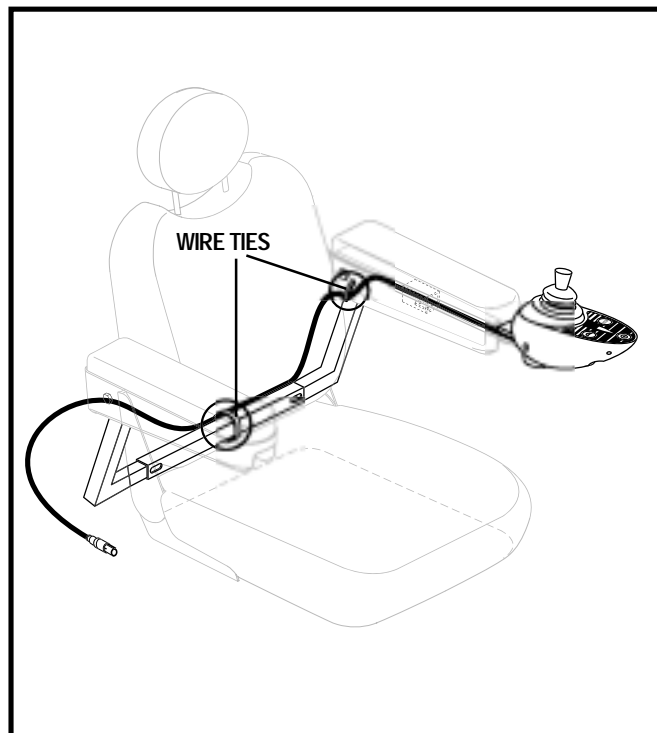

Figure 13. Remote Plus Controller Routed on a Contour Seat
8. Secure the controller cable to the armrest receiver with wire ties (contour seats only). See figure 13.